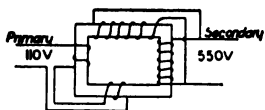

FIGURE 217. — 110 VOLTS TRANSFORMED TO 550 VOLTS.
3. If the primaries are connected in series and the secondaries in parallel, the voltage will be $\frac{1}{2} \times 110 = 550$. (Figure 217.)